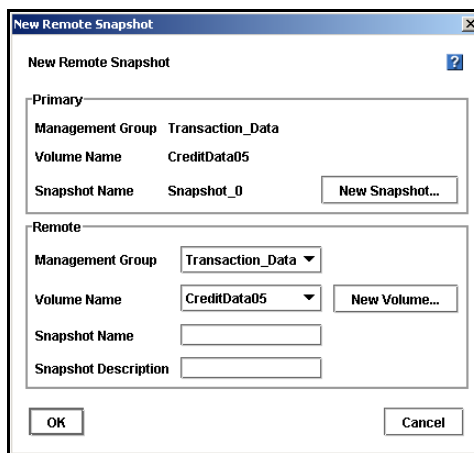

Figure 235. New Primary Snapshot Created
5. Click OK to return to the New Remote Snapshot window. The information for the primary snapshot is filled in, as shown in Figure 235. At this point the primary snapshot has been created.